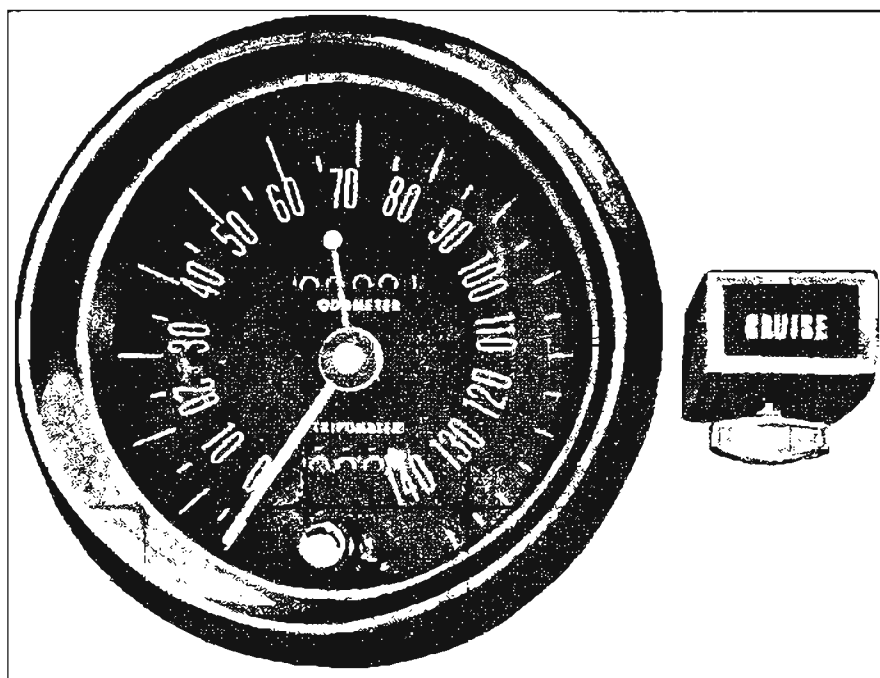

Figure 11-172—Electro-Cruise Controls - 49000 Series
2. ENGAGEMENT - The engagement switch lever and CRUISE lamp assembly is located to the right of the speedometer on 49000 Series cars and fully controls the engagement of the system. See Figure 11-172. On 45000, 46000 and 48000 Series the unit will be located on the speedometer head. To engage the system, it is necessary only to depress the engagement lever or knob until the CRUISE lamp lights indicating the Electro-Cruise is in operation. If car is at or above the speed setting when the engagement lever is depressed, the CRUISE lamp will come on immediately. If car speed is below the speed setting, it is necessary to hold the en-